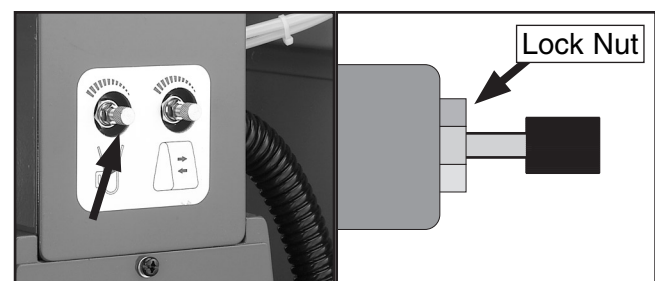

Figure 27. Airflow adjustment knob.
2. Loosen the lock nut on the airflow adjustment knob (**Figure 27**).
3. Turn the airflow adjustment knob (**Figure 27**) clockwise until the airflow is completely **OFF**. The upper roller should pivot to the right.
5. Tighten the lock nut (**Figure 27**) to secure the airflow adjustment knob.